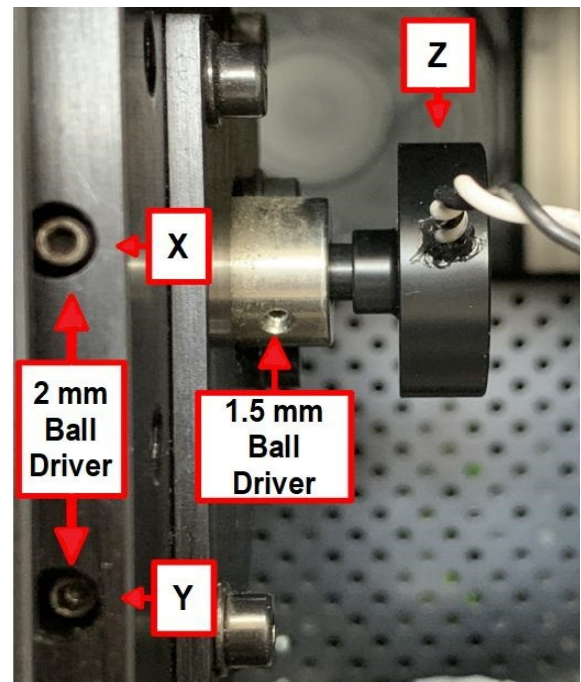

Figure 2. Location of the *Adjustment Screws* and *Lamp Set Screw* behind the *Lamp Access Door*.
- Open KinExA Pro and click on the **Read Meter** icon [] located in the *tool bar*. You can also access this feature by selecting it from the *instrument tab*. This opens the real-time excitation graph that allows visual feedback of alignment adjustments. While observing this screen, X-Y-Z adjustments (**Figure 2**) can be made until the voltage is maximized.
- To adjust the Z-Axis, loosen the *Set Screw* (**Figure 2**) using the *1.5 mm Ball Driver*. Move the *Lamp* in and out until maximum signal is found and then tighten the *Set Screw*.
- To adjust the X and Y-Axis manipulate the [2] *Adjustment Screws* shown in **Figure 2** using the *2 mm Ball Driver*. Adjust both *Screws* until maximum signal is found.